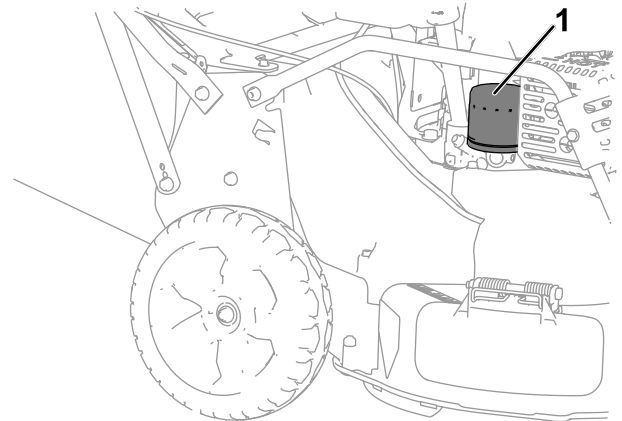

Figure 25
- Remove the oil filter (Figure 25).